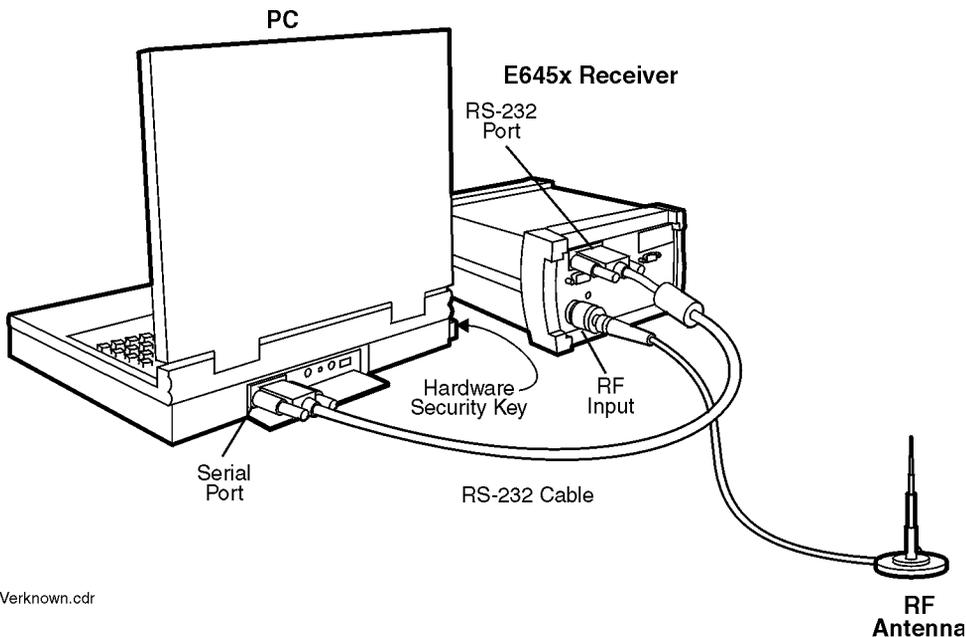

Figure 53 System configuration for measuring a known channel in the system
- 1 Connect the system as shown in Figure 53.